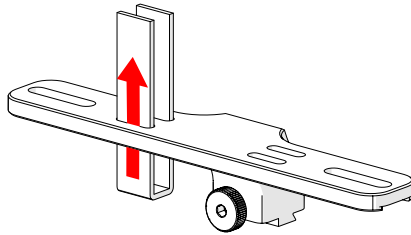

Fig. 149 - Insert velcro straps
1. Slide the velcro strap through the bracket's holes (*Fig. 149*).